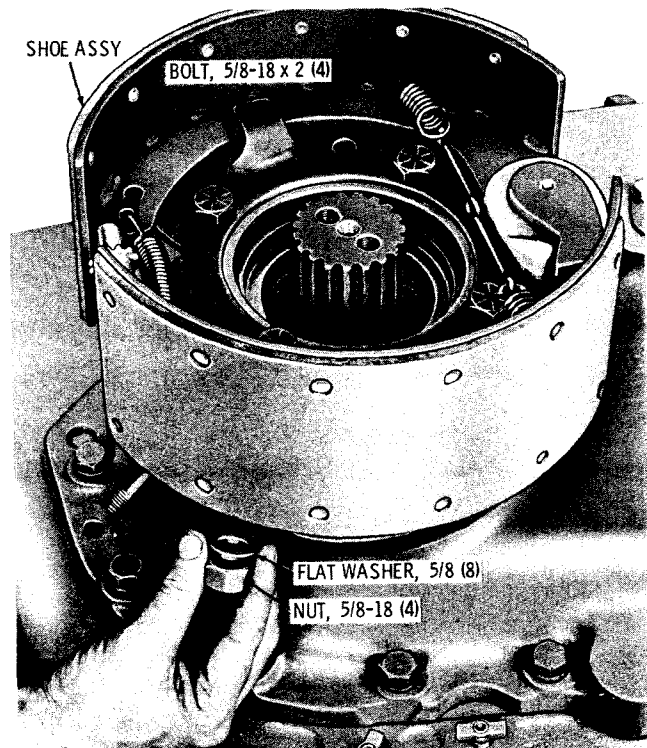

Fig 5-41. Removing nuts from bolts which retain brake shoe assembly
(7) Remove the four nuts, bolts and eight flat washers which retain the parking brake shoe assembly (fig. 5-41). Remove the brake shoe assembly. Refer to paragraph 6-22 for shoe assembly rebuild procedures.